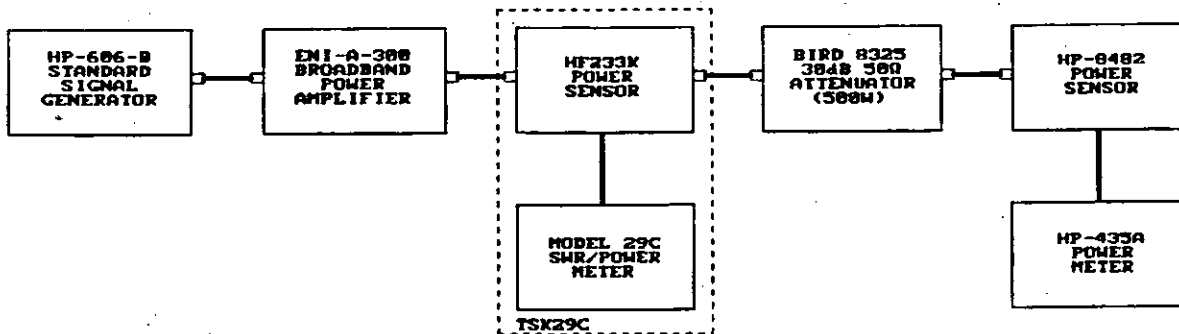

FIGURE 4 - Calibration test setup
The Model 29C power meter and SWR meter circuits can be independently calibrated following the procedure given below. Refer to Figure 4.
- (1) Remove the Model 29C from its case by removing the four attaching screws on the front panel.
- (2) Install fresh 9 volt batteries.
- (3) Connect the HF233K Power Sensor using the CA4 or CA15 Cable Assembly.
- (4) With no R.F. connections to the sensor, turn the instrument on and depress the BAT TEST button. The reading should be well within the BATT. OK arc, on the RF POWER-WATTS meter.
- (5) If there is a slight zero offset showing on the RF POWER-WATTS meter, this may be corrected by carefully adjusting the mechanical zero adjustment on the face of the meter. Do not make any adjustments to the SWR meter at this time. Place the MODE switch in the AVG position.
- (6) Connect the sensor as shown in Figure 4 and select the 50 W range on the Model 29C SWR/Wattmeter. Apply 50 watts of RF power at a frequency of 15 Mhz.
- (7) Adjust resistor R18 (PWR CAL - 50 W) to obtain a proper full scale reading on the RF POWER-WATTS meter. Place the MODE switch in the AVG position for all remaining adjustments.
- (8) Check the meter readings at 30 and 10 watts.
- (9) At this time, a sweep of the generator from 2 to 30 Mhz at a constant power of 40 watts will reveal any deficiencies in the HF233K Power Sensor.